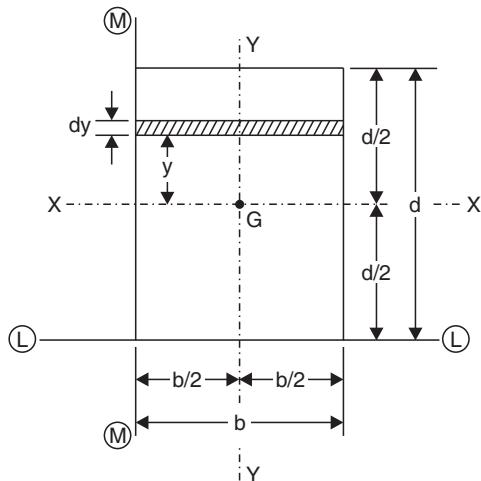

Fig. 8.9
**1. Rectangular lamina.** Refer to Fig. 8.9. Let a rectangular lamina be  $b$  units wide and  $d$  units deep.